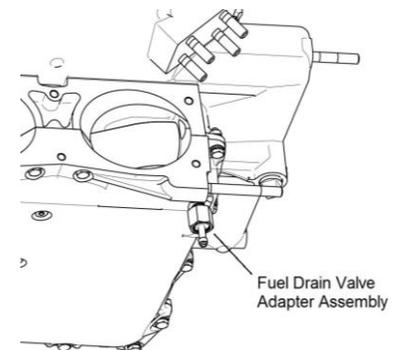

Figure 3
9. Install the fuel drain valve adapter assembly (shipped with the engine as a “Ship Loose Part”) in the induction system (Figure 3). Refer to Chapter 72-80 in the *TEO-540-A1A Series Engine Maintenance Manual* for installation instructions.